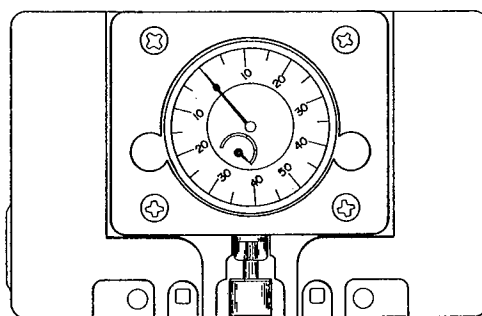

Fig. 24 AKAI Head Projection Gauge
Set the AKAI Head Projection Gauge (Fig. 24) and adjust (a) and (b) screws (Fig. 22) so that it reads: 1.9 to 2.2 mm in the IPLS Mode,  $3.55 \pm 0.1$  mm in the Play Mode.
4. When a mirror installed cassette test tape as shown in Fig. 24 is required, it can be ordered from AKAI Electric Co.